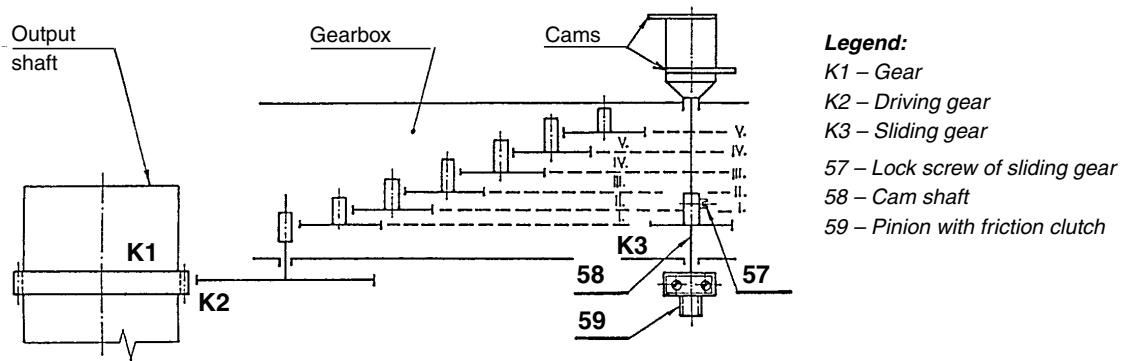

Fig. 6 – Kinematic diagram of gears
The signalling unit (Fig. 4) is designed as an independent assembly. It is mounted on the supporting plate 47; the gearings fitted under it are arranged as shown in the kinematic diagram (Fig. 6). The gearing is assembled so that, after loosening the lock screw 57, the sliding gear K3 can be moved to different levels (I, II, III, IV, V). Moving of the gear K3 changes the range of setting the signalling switches and the transmitter according to the electric actuator working stroke. The tables at the Figs. 8 and 9 show the ranges of setting for respective positions of the sliding gear K3.
If the ranges of setting the signalling switches and the transmitter are to be modified it is necessary to change the position of the sliding gear K3. In resetting the gear K3 the signalling unit should be partially shifted out from the control box (length of inlet cables to the micro-switches is sufficient to allow for that). This can be done after removing three screws 21 (Fig. 2) which fix the unit to the base plate. After adjusting the signalling unit to the required range, the unit is returned back. Before the screws 21 are retightened, correct meshing of the gears K1 and K2 should be checked (Fig. 6). The pinion 59 (Fig. 6) is put on the lower end of the cam shaft 58 (Fig. 6) which is connected with the shaft 58 by an adjustable friction clutch. From this pinion the motion is scanned for driving the resistance or current transmitter. Arrangement of the cams and micro-switches of the signalling unit is shown in Fig. 4. The shoulders of the cams 38, 39 deflect the levers 42 or 43 which control the signalling micro-switch OPEN (44) or CLOSE (45). In adjusting the signalling and position-limit switches and the transmitter it is always necessary to reset the electric actuator output shaft to the position where changing-over of the micro-switches should take place or required position of the transmitter is to be reached.